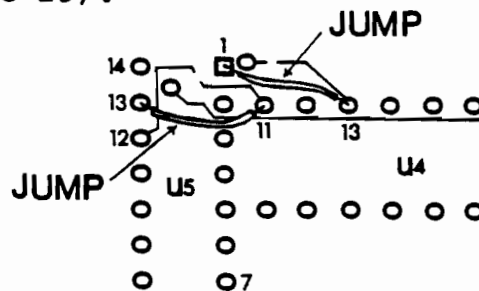

Figure 29
5. Solder an insulated wire from pin 13 of U5 to pin 11 of U4. Likewise solder an insulated wire from pin 1 of U5 to pin 13 of U4 (see figure 29).